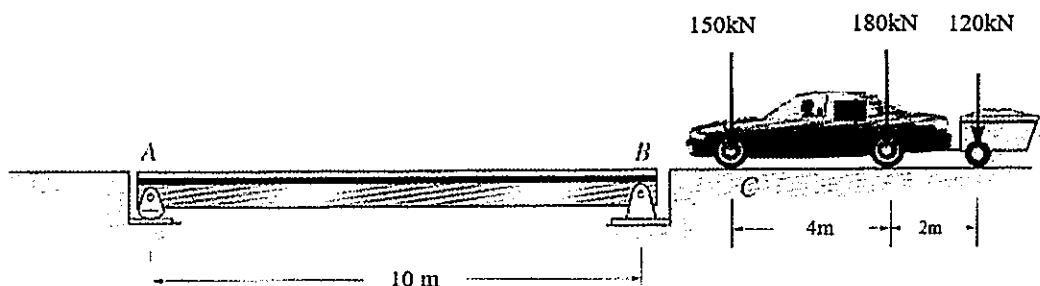

Figure A2(b) / Rajah A2(b)
- CLO3 (b) A simply supported beam with 10 m length is subjected to a series of moving loads as shown in Figure A2(b). Evaluate the absolute maximum moment occurred in the beam.